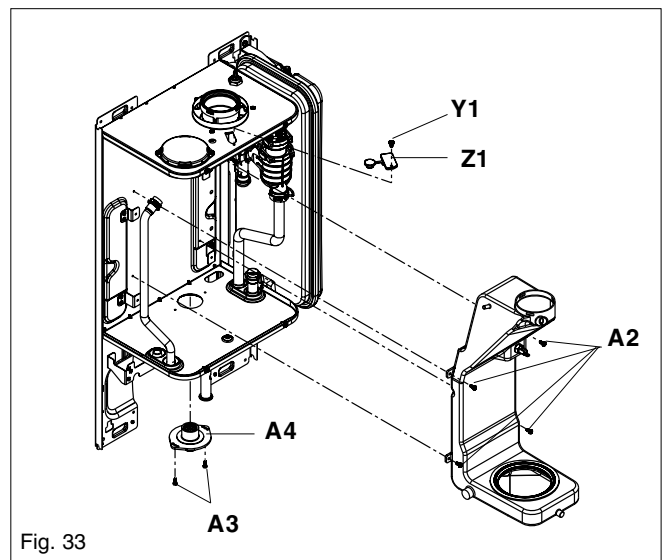

Fig. 33
## 6.20 FLUE COLLECTOR REMOVAL (fig. 33)
Isolate the appliance from the electrical supply and remove the appliance casing as described in 4.7.1. Set the flue gas analyser to read CO2 and insert the probe into the flue analysis test point (Y1-Z1 fig. 33). Restore the electrical supply to the boiler and switch the boiler to the OFF mode.
- Insert the flue gas analyser probe into the flue gas test point (see fig. 33).